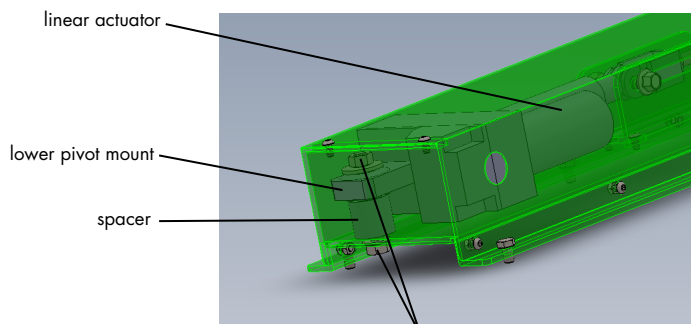

Figure 1
A) Mounting the linear actuator (LAD2) (Figure 1)